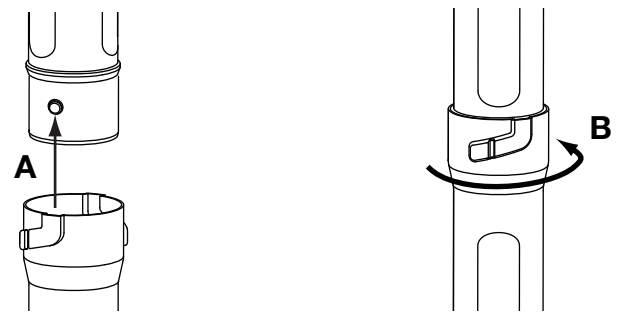

Fig. 4
4. Align the bump slot on the end of the second lower blower tube with the bump on the bottom end of the first lower blower tube (Fig. 4, A).
5. Insert the bump on the first lower blower tube into the bump slot on the second lower blower tube (Fig. 4, A).
6. Twist the second lower blower tube clockwise around the first lower blower tube until the second lower blower tube bump locks into place (Fig. 4, B).